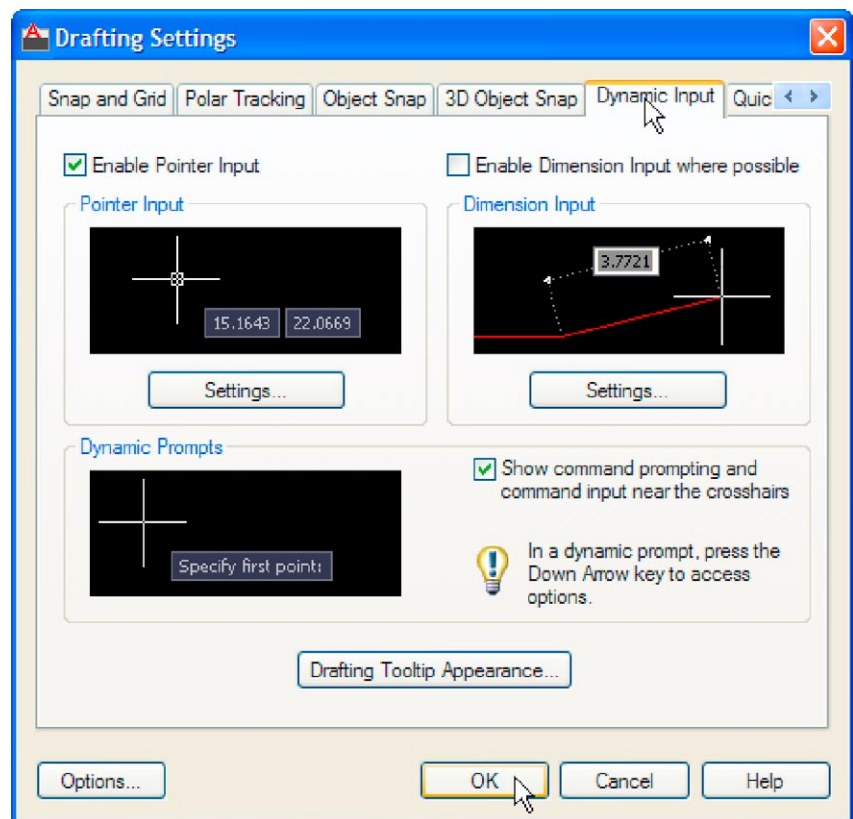

Fig. 3.18 Settings for DYN can be made in the **Drafting Settings** dialog
**Dynamic Input** settings are made in the **Dynamic Input** sub-dialog of the **Drafting Settings** dialog (Fig. 3.18), brought to screen by *entering* **os** (or **ds**) at the command line.